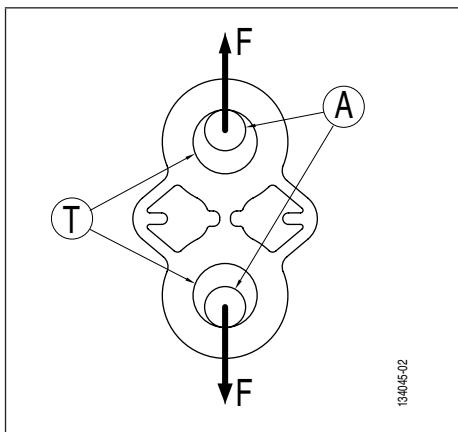

Fig. 2
A full range of TA test plates has been developed in order to test anchor points in traction. The plate fastening holes (*Fig. 2, page 4*, item T) are designed to receive high-strength bow shackles.
- Loading of the TA test plate (*Fig. 2, page 4*).